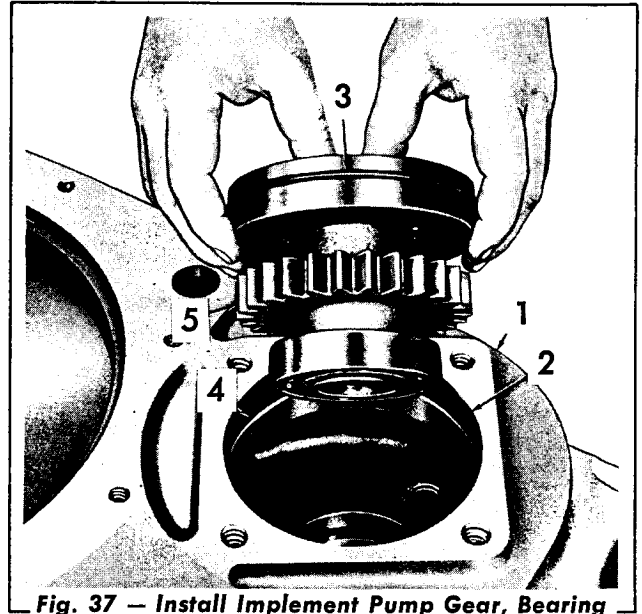

Fig. 37 — Install Implement Pump Gear, Bearing and Bearing Retainer Assembly
1. Position the converter housing assembly (Fig. 37) to rest on its rear surface. Grease the bore so that the seal ring will not be damaged by the snap ring groove. Install the seal ring. Install as a unit, the implement pump gear, the bearing, and the bearing retainer. Tap on the unit to seat the bearing.